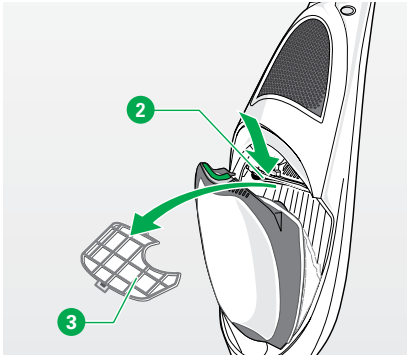

Fig. 4.8 Motor protection
- Pull the green lever ① and open the cover of the filter unit.
- Press the shackle ② of the frame of the motor protection filter ③ until the Motor protection filter is released from the fastening device (see Fig. 4.8 on page 69).